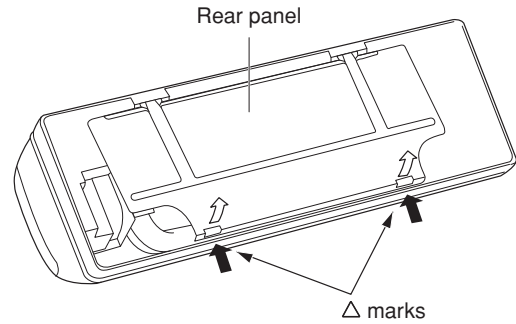

Fig. 7
- (2) Press the 2 Δ marks on the frame cover and disengage the stationary tabs from the frame. (Fig. 7)
- (3) Remove the rear panel.